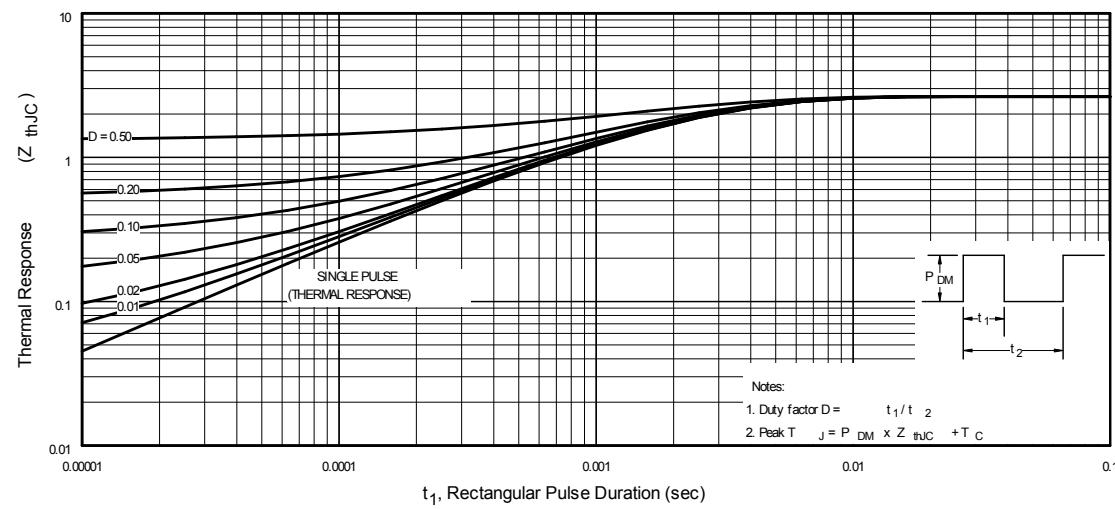
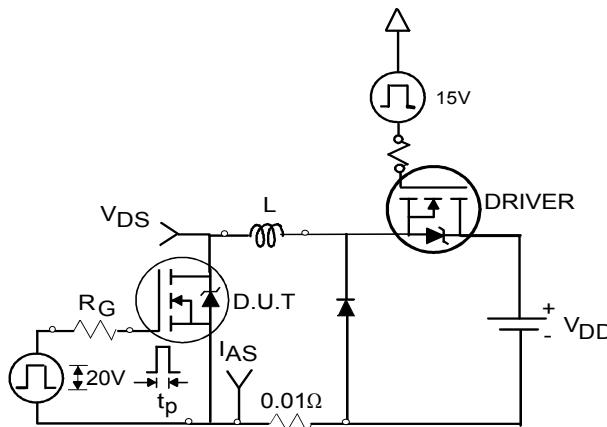

Fig 11. Maximum Effective Transient Thermal Impedance, Junction-to-Case
Fig 12a. Unclamped Inductive Test Circuit
- ① Repetitive rating; pulse width limited by max. junction temperature. (See fig. 11)
- ② Limited by $T_{J\max}$, starting $T_J = 25^\circ\text{C}$, $L = 0.55\text{mH}$, $R_G = 25\Omega$, $I_{AS} = 15\text{A}$, $V_{GS} = 10V$.
- ③ $I_{SD} \leq 25\text{A}$, $dI/dt \leq 290\text{A}/\mu\text{s}$, $V_{DD} \leq V_{(\text{BR})\text{DSS}}$, $T_J \leq 175^\circ\text{C}$.
- ④ Pulse width $\leq 300\mu\text{s}$; duty cycle $\leq 2\%$.
- ⑤ $C_{oss\ eff.}$ is a fixed capacitance that gives the same charging time as C_{oss} while V_{DS} is rising from 0 to 80% V_{DSS}
- ⑥ Limited by $T_{J\max}$, see Fig. 12a, 12b, 15, 16 for typical repetitive avalanche performance.
- ⑦ This value determined from sample failure population, starting 100% tested to this value in production.
- ⑧ When mounted on 1" square PCB (FR-4 or G-10 Material). For recommended footprint and soldering techniques refer to application note #AN-994
- ⑨ R_θ is measured at T_J approximately 90°C .
3. Equation below based on circuit and waveforms shown in Figures 12a, 12b.